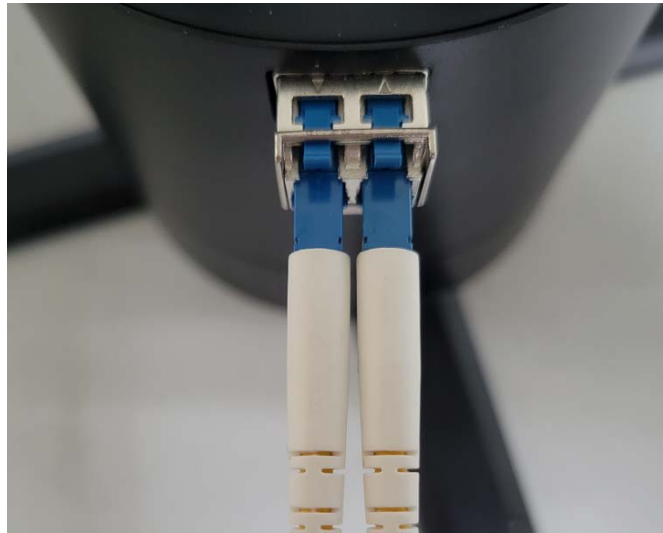

Figure 1-4
- 5、 Take the optical module and fiber, insert the optical module, and connect the fiber, as shown in Figure 1-4.